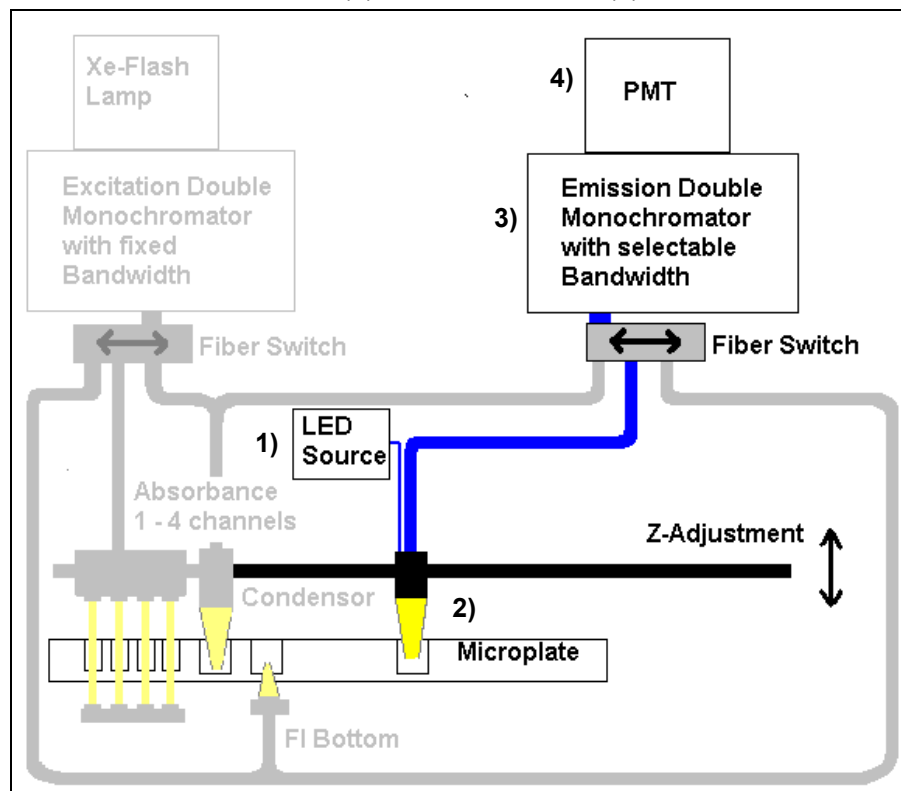
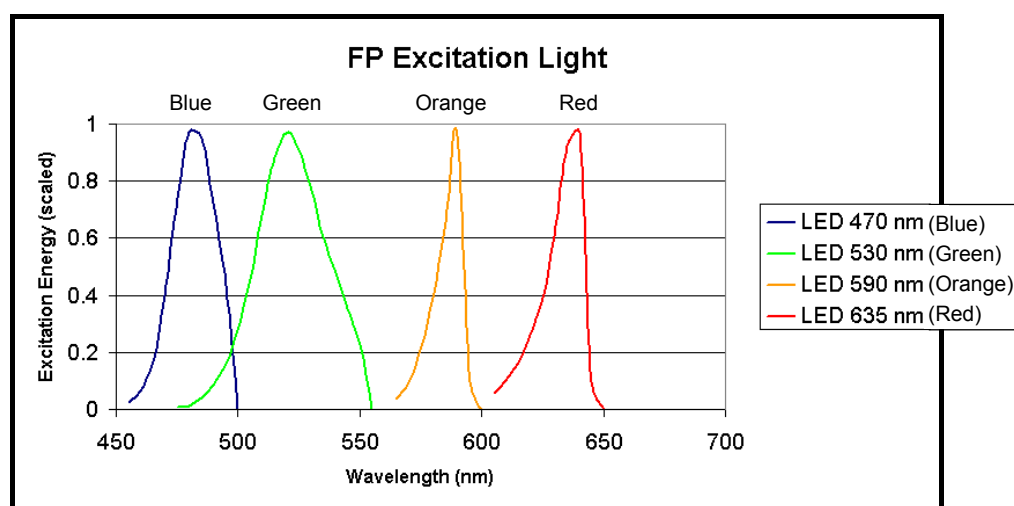

Figure 14: Optical System Fluorescence Polarization.
Figure 15: Fluorescence Polarization Excitation light spectra.
- Lens 3 focuses the emission light onto the fiber optic bundle (Figure 14) and guides the light to the emission monochromator system.
The excitation light for the FP measurement is generated by the 4 different LEDs and passes through appropriate interference filters and dichroic mirrors (Figure 14). Figure 15 shows the spectra of the resulting light which exits the sample.
The Z-position of the polarization optics can be adjusted (Figure 14). As light is refracted onto the sample liquid surface, a Z-adjustment helps to maximize the signal to noise ratio.
A fiber bundle guides the polarized light that passes the analyzer to the emission monochromator. The light is detected by the PMT (Figure 14).